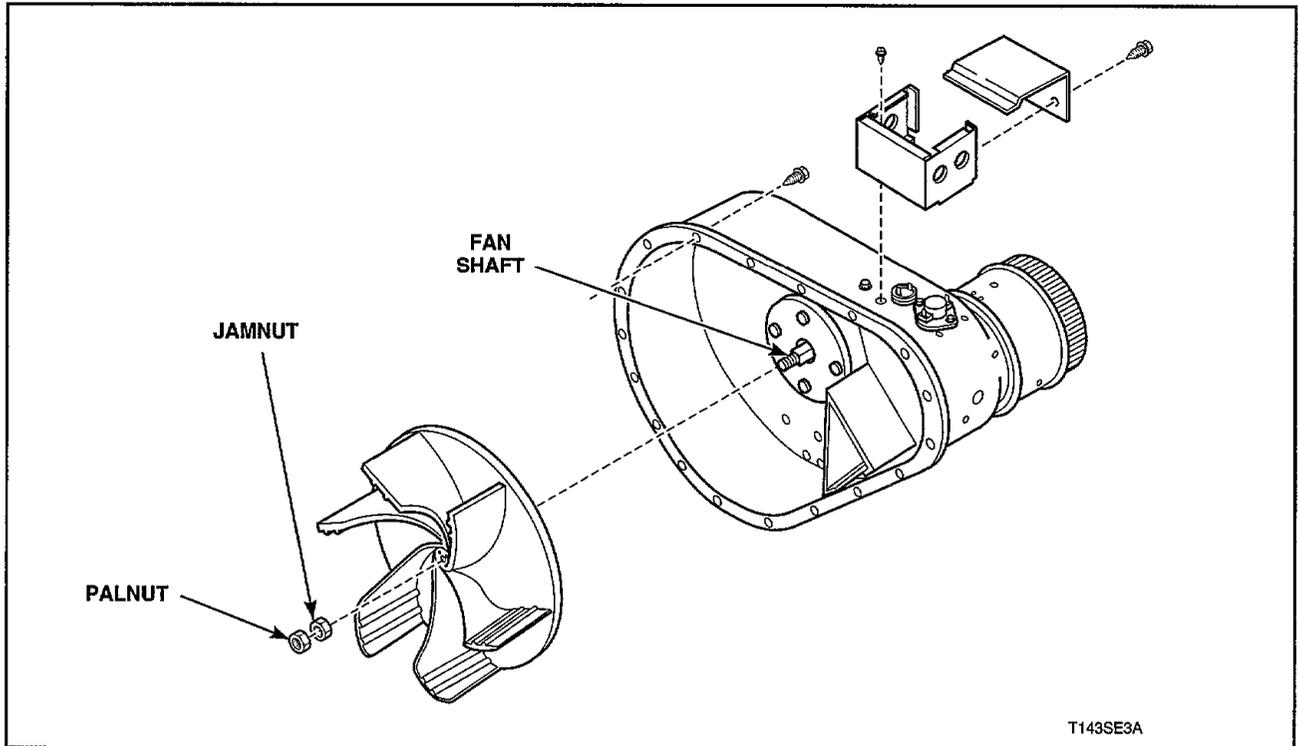

Figure 28
- With fan housing assembly off cabinet, hold fan while loosening palnut and jamnut, *Figure 28*.
33. FAN BEARING, SHAFT AND HOUSING ASSEMBLY (Figure 28)